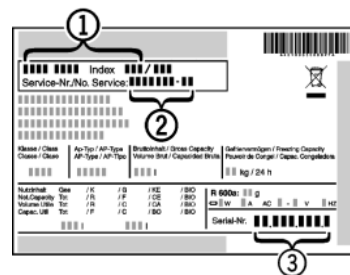

Fig. 17
- ▶ Read the appliance designation *Fig. 17 (1)*, service No. *Fig. 17 (2)* and serial No. *Fig. 17 (3)* off the type plate located inside the appliance on the left-hand side.
- ▶ Notify the customer service, specifying the fault, appliance designation *Fig. 17 (1)*, service No. *Fig. 17 (2)* and serial No. *Fig. 17 (3)*.